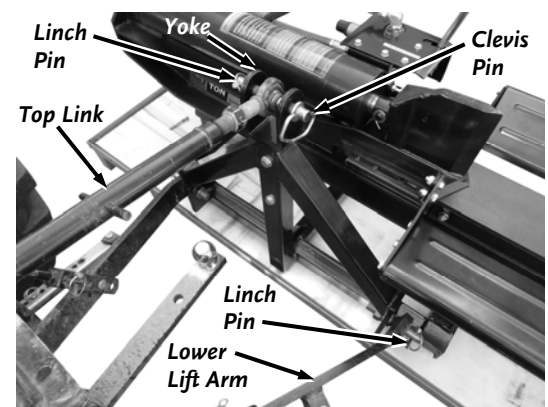

Figure 6
6. Position the back of the tractor to the 3-Point Hitch side of the Frame (**Figure 6**).